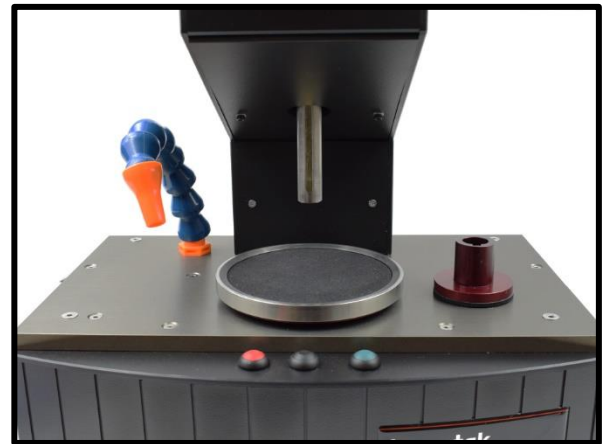

Fig 5 – Standard head removed
- Pull down on the red sample head to remove (it is held in place by magnets, fig 5).